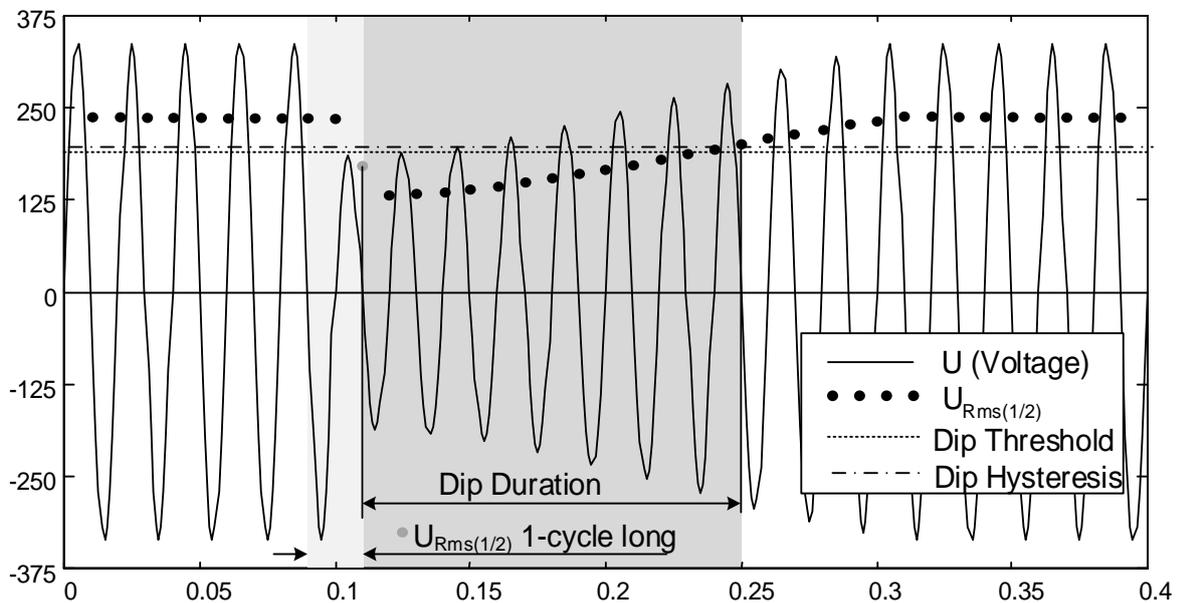
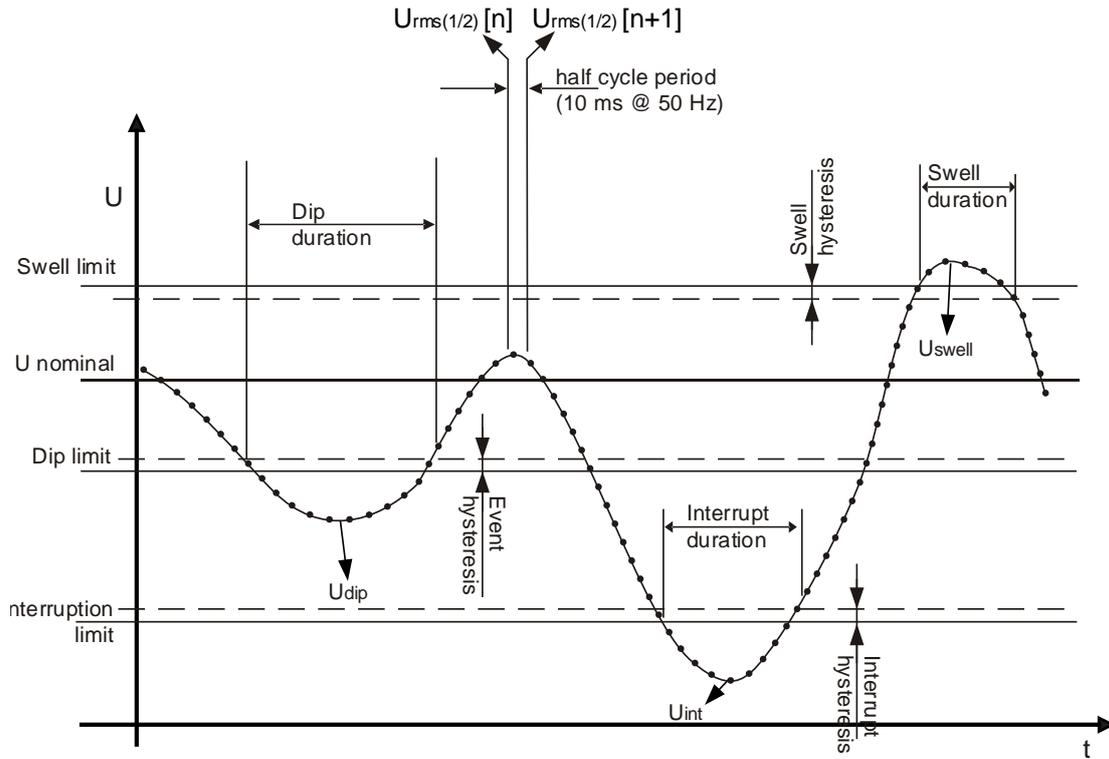

Figure 5.9: $U_{Rms(1/2)}$ 1-cycle measurement
Figure 5.10 Voltage events definition
- On single-phase system (Connection type: 1W), a voltage dip begins when the $U_{Rms(1/2)}$ voltage falls below the dip threshold, and ends when the $U_{Rms(1/2)}$ voltage is equal to or above the dip threshold plus the hysteresis voltage (see Figure 5.10 and Figure 5.9),.
- On single-phase system (Connection type: 1W) , a voltage swell begins when the $U_{Rms(1/2)}$ voltage rises above the swell threshold, and ends when the $U_{Rms(1/2)}$ voltage is equal to or below the swell threshold plus the hysteresis voltage (see Figure 5.10 and Figure 5.9),
- On single-phase system (1W), a voltage interruption begins when the $U_{Rms(1/2)}$ voltage falls below the voltage interruption threshold and ends when the $U_{Rms(1/2)}$ value is equal to, or greater than, the voltage interruption threshold plus the hysteresis (see Figure 5.10 and Figure 5.9),